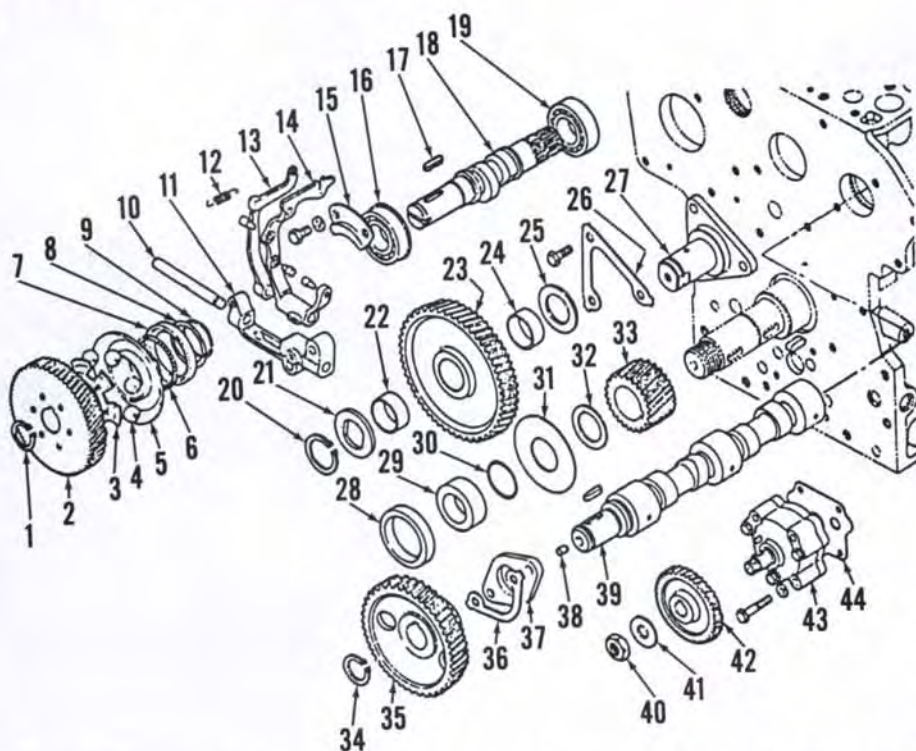

Fig. 25—Exploded view of timing gears and associated parts used on Models L175, L225 and L225DT.
23. Refer to Fig. 25 for an exploded view of timing gears and associated